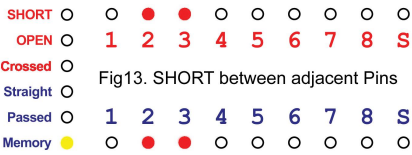

Fig13. SHORT between adjacent Pins
d) A short between two adjacent pins which have connections at both ends of the cable (Fig13).